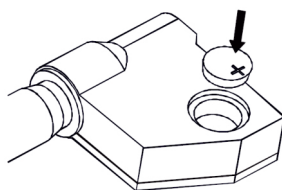

Fig. 2
- » Insert a CR2032 battery into the battery compartment, the positive side of the battery (+) should face out (Fig. 2).